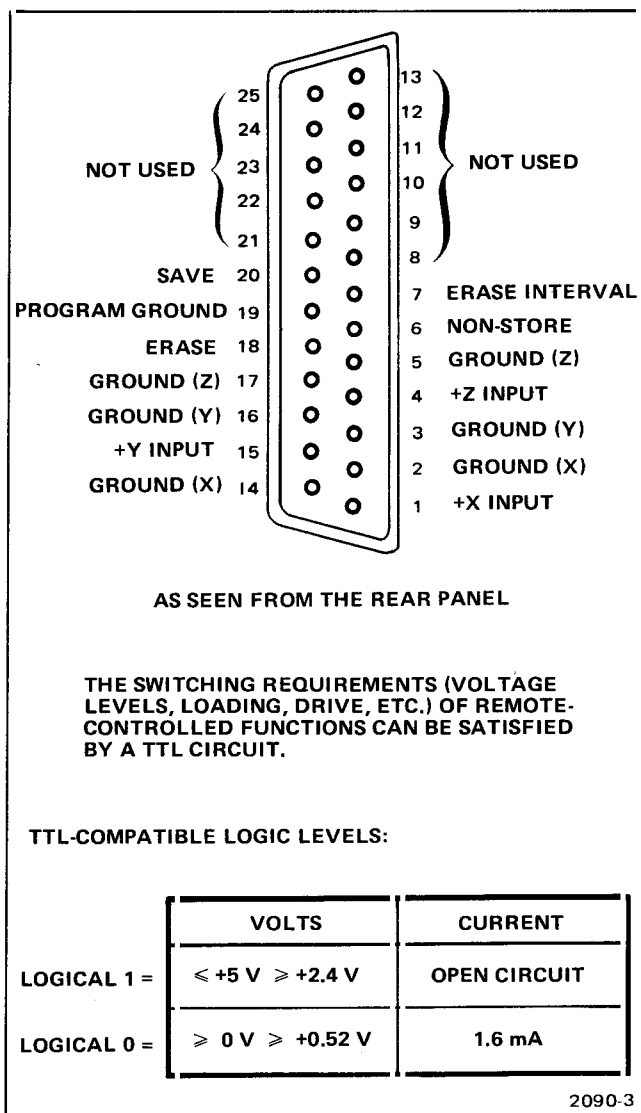

Figure 2-3. REMOTE PROGRAM connector data.
The REMOTE PROGRAM connector, located on the rear panel, provides direct connections to the + inputs of the Horizontal (X), Vertical (Y), and the Z-Axis amplifiers from a remote location. Also, erase, non-store and save-storage operation can be controlled from a remote location; however, the front-panel controls of the instrument override the remote inputs. All inputs and outputs are TTL compatible. See Figure 2-3 for additional details.